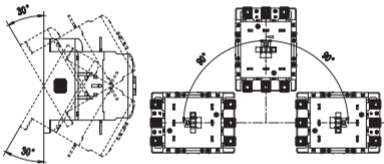

Figure 2 Installation requirement
- See Figure 2 for product installation requirements.